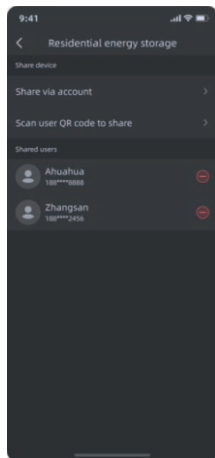

Figure 1
- 1) Figure 1: Supports sharing devices through accounts or QR codes; Display the shared users, click "**Delete**" to pop up a confirmation to cancel the sharing pop-up.